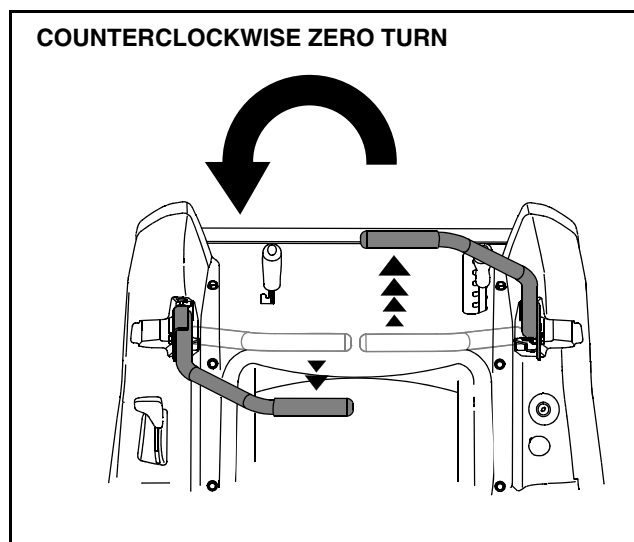

Figure 20
- To turn counterclockwise, slowly move the right control lever forward while simultaneously moving the left control lever rearward. See Figure 20.